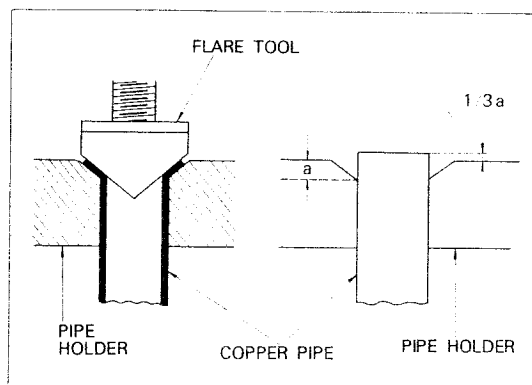

Fig. 43
- B) The tip of the copper pipe should stick out of the holder as shown in Fig. 43.